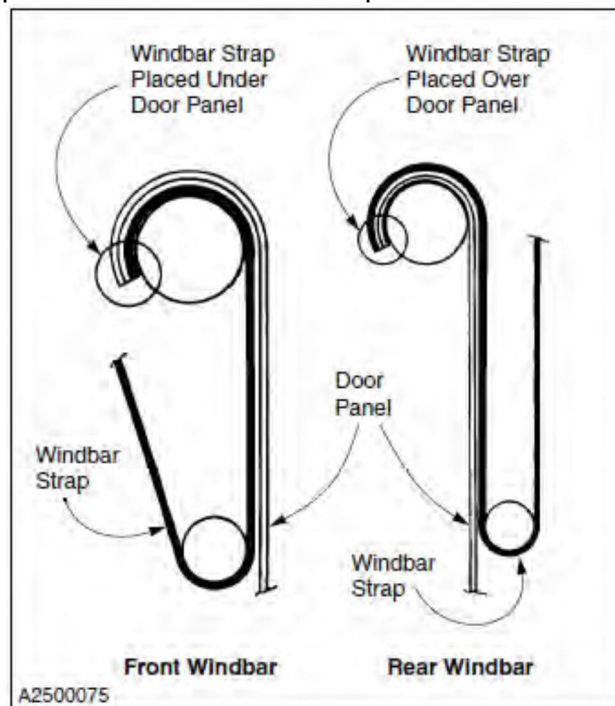

Figure 6
17.) Route the windbar strap around the windbar and up to the windbar bracket. (See Figure 6)
- 13.) Route the windbar strap around the windbar and up to the windbar strap bracket. (See Figure 6)